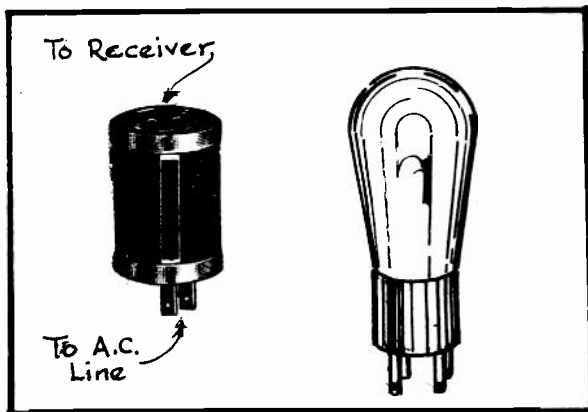

Fig. 2
2. - TWO POPULAR LINE VOLTAGE REGULATORS ARE SHOWN IN FIG. 2. THE ONE AT THE LEFT IS A "CLAROSTAT" AND CONSISTS OF A PERFORATED METAL CONTAINER IN WHICH A SPECIAL RESISTANCE ELEMENT IS CONTAINED. ITS DESIGN IS SUCH THAT IT CAN BE INSERTED INTO AN ORDINARY SCREW TYPE PLUG OR CONVENIENCE OUTLET OF THE LIGHTING CIRCUIT. THE PLUG WHICH IS ATTACHED TO THE RECEIVER'S POWER CORD IS THEN INSERTED IN THE TWO HOLES PROVIDED FOR THIS PURPOSE ON THE REGULATOR.
3. - THE TUBE TYPE REGULATOR ("AMPERITE") ALSO SHOWN IN FIG. 2 CAN BE MOUNTED AT ANY CONVENIENT POINT IN THE RECEIVER CABINET SO THAT THE UNIT WILL BE IN SERIES WITH THE A.C. LINE AND THE RECEIVER.